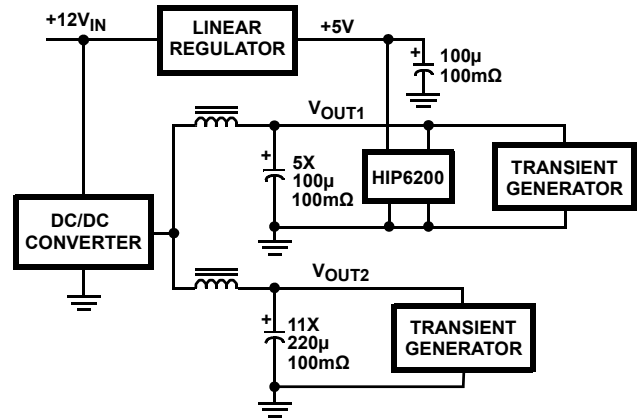

FIGURE 2. BLOCK DIAGRAM OF HIP6200EVAL1
The HIP6200EVAL1 is an evaluation board which demonstrates the DeCAPitator’s effectiveness in dealing with high-speed load transients. The board consists of a DC/DC converter with two different output stages: (1) a simple L-C filter containing eleven 220µF low-ESR tantalums, and (2) an L-C filter with only five 100µF low-ESR tantalums and the HIP6200 and its associated circuitry. On each output stage is a high edge-rate transient generator capable of producing 8A (or higher) transients. A block diagram of the evaluation board is shown in Figure 2 and the complete schematic, bill-of-materials, and board description is contained in the appendix.